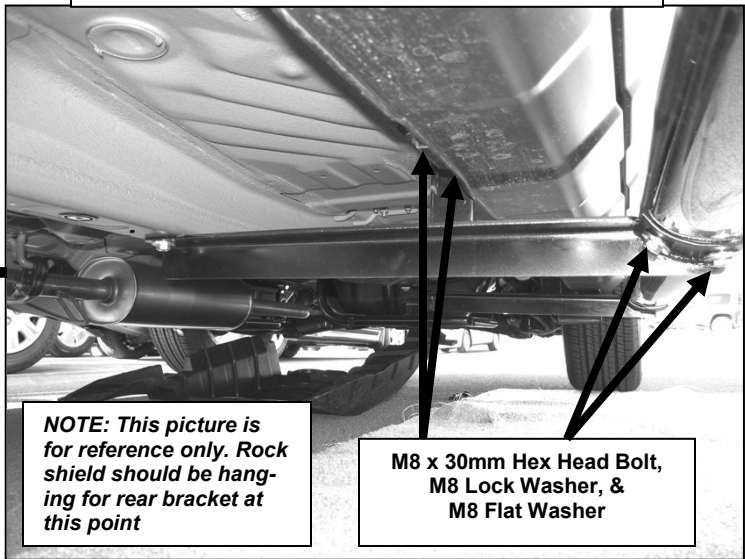
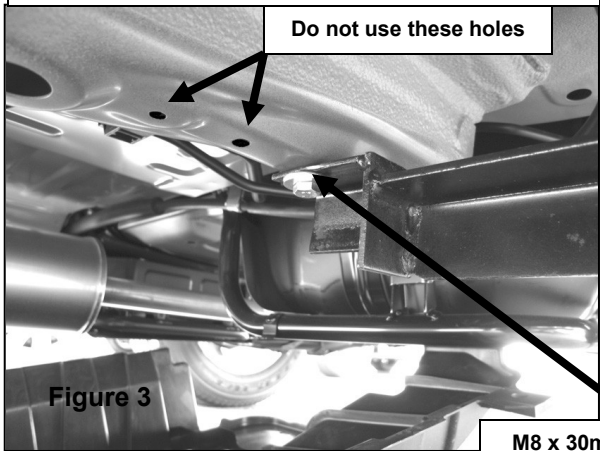

Figure 1
Figure 3
3. Hang the inner side of the driver front Mounting Bracket into position by partially threading (1) M8 x 30mm Hex Head Bolt, (1) M8 Lock Washer, and (1) M8 Flat Washer into factory threaded hole on the frame (Figure 1). NOTE: There are two threaded holes by the front mounting location on the frame, use the one towards the rear of vehicle.
4. Attach the opposite side of the driver front Mounting Bracket to the threaded holes on the floor panel of the vehicle by partially threading (2) M8 x 30mm Hex Head Bolts, (2) M8 Lock Washers, and (2) M8 Flat Washers (Figure 1).
9. Insert the inner side of driver rear Mounting Bracket through previously cut out hole on the plastic cover. Hang Mounting Bracket by partially threading (1) M8 x 30mm Hex Head Bolt, (1) M8 Lock Washer, and (1) M8 Flat Washer into factory threaded hole on the frame (Figure 3). NOTE: There are two threaded holes on the frame, use the one towards the rear of vehicle.
10. Attach the opposite side on the driver rear Mounting Bracket by partially threading (2) M8 x 30mm Hex Head Bolts, (2) M8 Lock Washers, and (2) M8 Flat Washers into factory threaded holes on the floor panel.
11. Position Driver Side Bar onto Mounting Brackets. Attach Side Bar to Mounting Brackets using the included (4) M8 x 30mm Hex Head Bolts, (4) M8 Lock Washers, and (4) M8 Flat Washers (Figure 1). Do not tighten at this time.